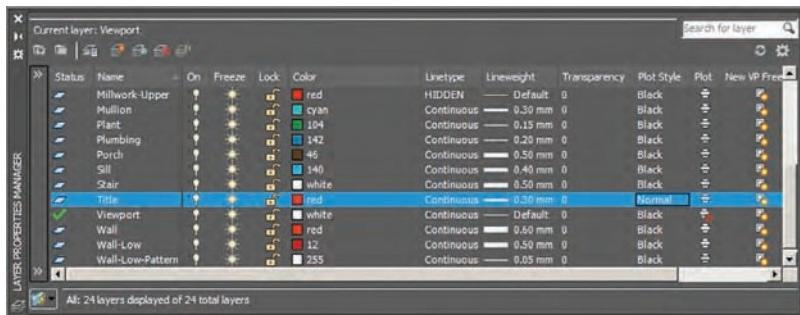

FIGURE 14.9 Selecting a plot style to assign to a layer
1. Type **LA** (for Layer) and press Enter. Right-click any one of the layer names in the Layer Properties Manager that appears and choose Select All from the context menu. Click the word *Normal* in the Plot Style column. The plot style table you created earlier (*My plot style.stb*) is selected. Choose Black in the Select Plot Style dialog box (see Figure 14.9). Click OK. Now all the layers will plot in black.